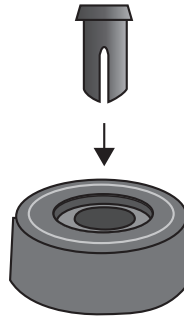

Figure 12. Inserting the Rivet Housing into the Bumper Foot
2. Inset a rivet housing into a bumper foot. Refer to Figure 12.